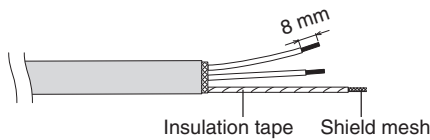

Fig. 4-9
- (3) Remove coat of signal wire. (Fig. 4-9)